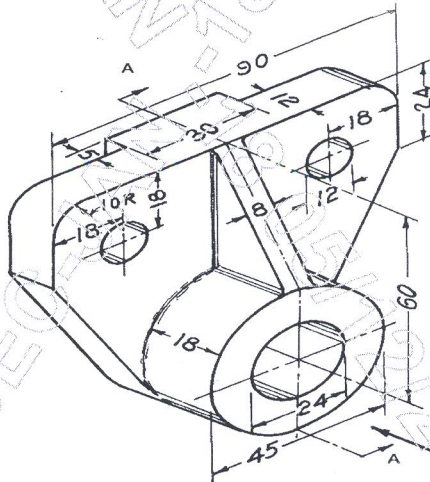

Figure 1.
- Q.No.1** Figure.1 shows a machine component Draw the following views.